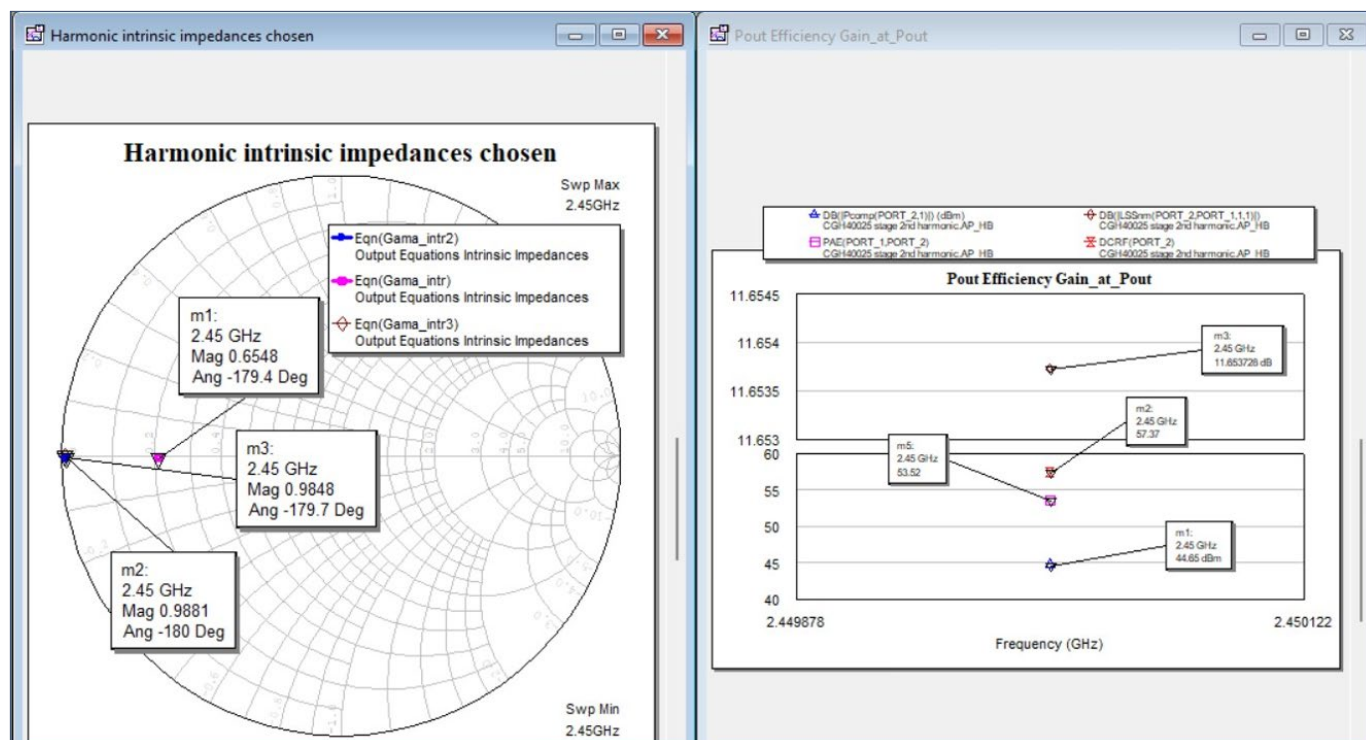

Figure 10
11. In Figure 10, looking at the Smith Chart, tune the 2nd and 3rd harmonic intrinsic impedances to be a short circuit as it is shown.
Pout, drain and power added efficiencies and gain @ Pout are shown in the graph on the right in Figure 10